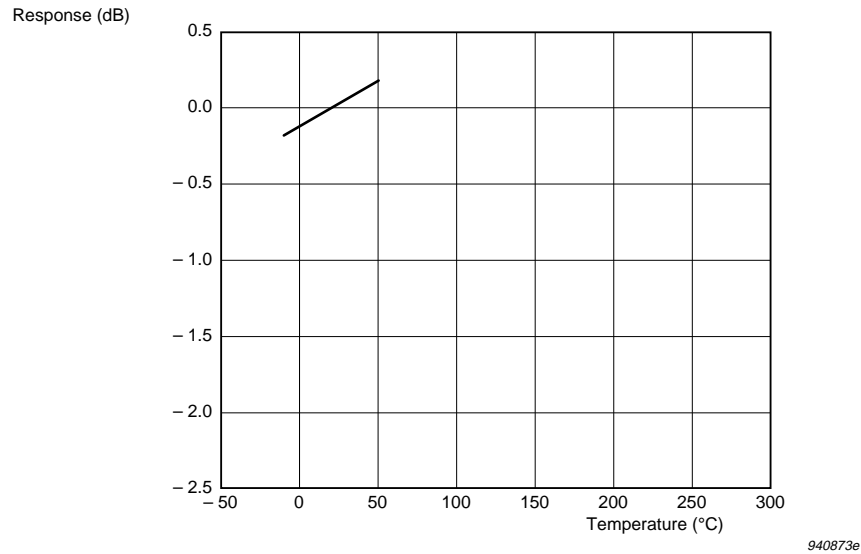
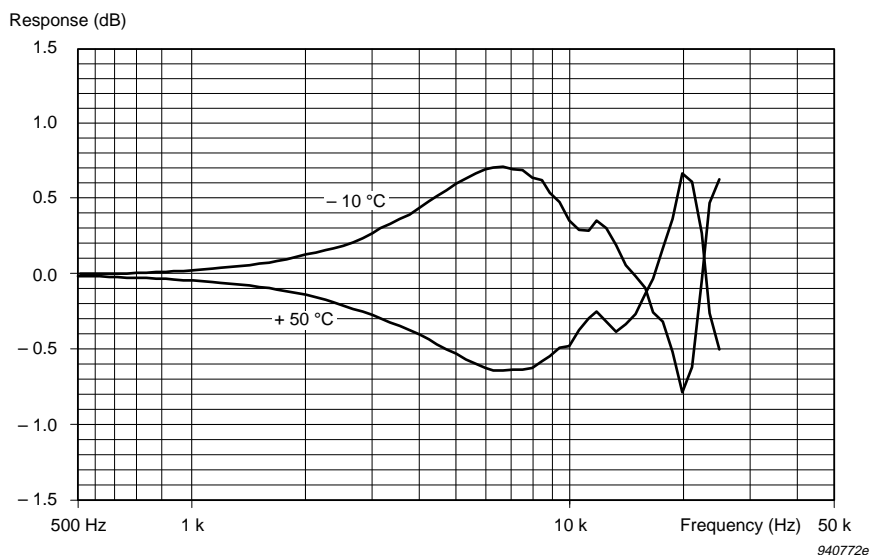

Fig.2.21 Typical variation in sensitivity (at 250 Hz) as a function of temperature, relative to the sensitivity at 20°C
Fig.2.22 Typical variation in actuator response (normalized at 250 Hz) as a function of temperature, relative to the response at 20 °C (see Fig.2.4)
The reversible changes are shown in Fig.2.21 as a change in sensitivity and in Fig.2.22 and Fig.2.23 as changes in the frequency response normalized at 250 Hz.
- the measured change in the actuator response due to temperature (see Fig.2.22).